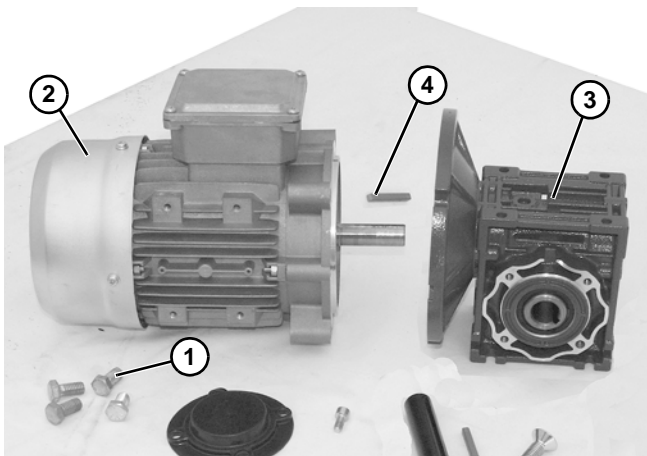

Figure 42
4. Remove four screws (**Figure 42, item 1**). Detach motor (**Figure 42, item 2**) from gear reducer (**Figure 42, item 3**). Retain motor output shaft key (**Figure 42, item 4**).